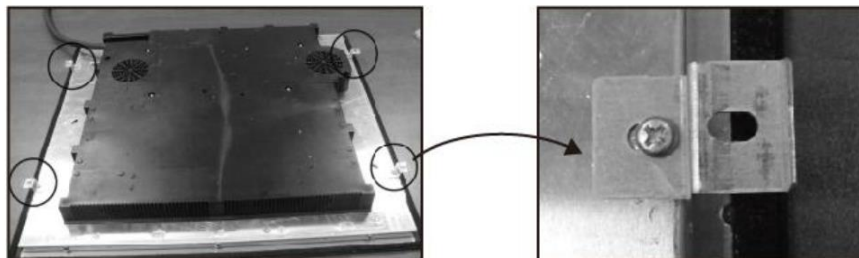

Fig. 5
- After installation, fix the heating plate to the work surface using 4 bolts at the bottom side of the heating plate (see Fig. 5). Adjust the position of the bracket to actual thickness of the worktop table.